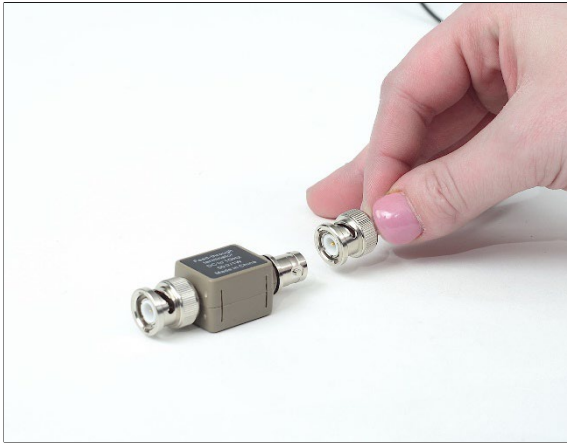

Figure 5. The PICOTA51 50 ohm terminator connects to the Tektronix® CT1 Current Probe
4. Connect the current probe coming from the Capacitive Arm to the male end of the **PICOTA51** 50-ohm terminator (Figure 5).